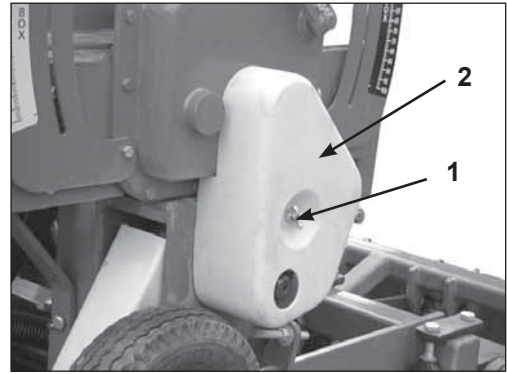

Fig 14
To change the speed setting from high to low, remove the wing nut (1) and chain cover (2) (Fig 14).